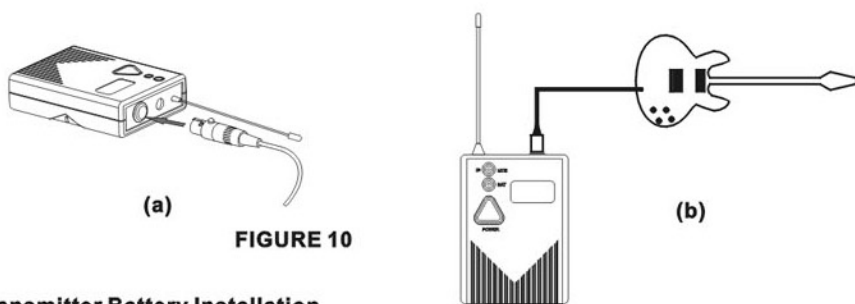

FIGURE 10
3.Guitar Microphone connection(Figure 10).